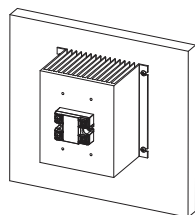

fig. 3 Panel Mounting
- For Panel Mounting install as shown in **fig. 3**. Recommended screw size is 8-32 (UNC standard) or M4 (metric).